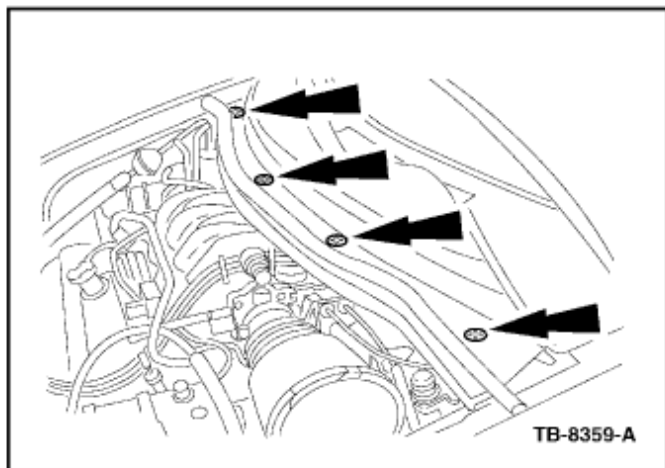

Figure 14
19. Install four (4) new pushpin screw/rivets to secure the upper cowl to the lower cowl. Add Clear Silicone Rubber to the four (4) pushpin screw/rivets to make a watertight seal around them. (Figure 14)